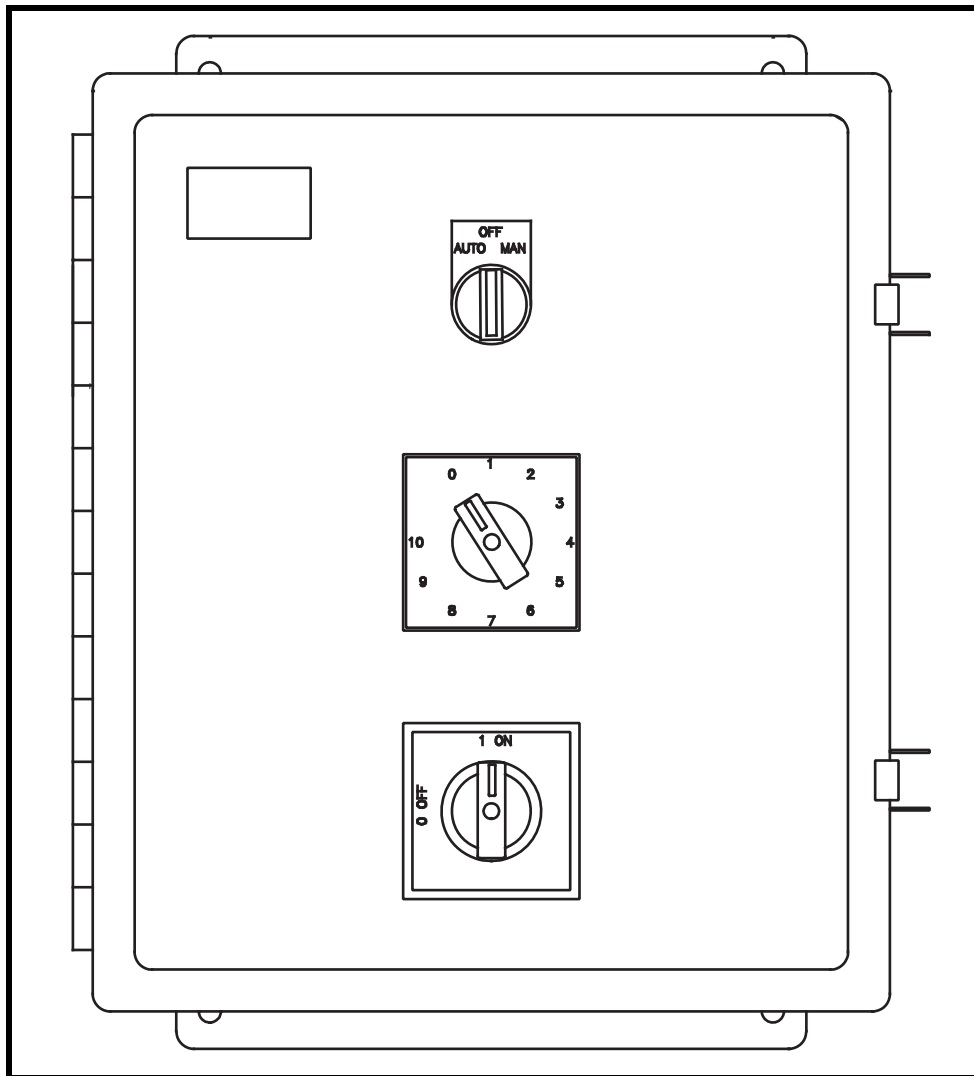

Figure 4. MARTIN® Sonic Horn Controller Door
1. To manually cycle sonic horns 1 through 10, turn selector knob on door of controller enclosure to number of horn you wish to cycle. Turn HAND-OFF-AUTO knob to HAND (see Figure 4), hold to cycle horn, and release. (Selected horn will cycle and knob will return to OFF automatically.)